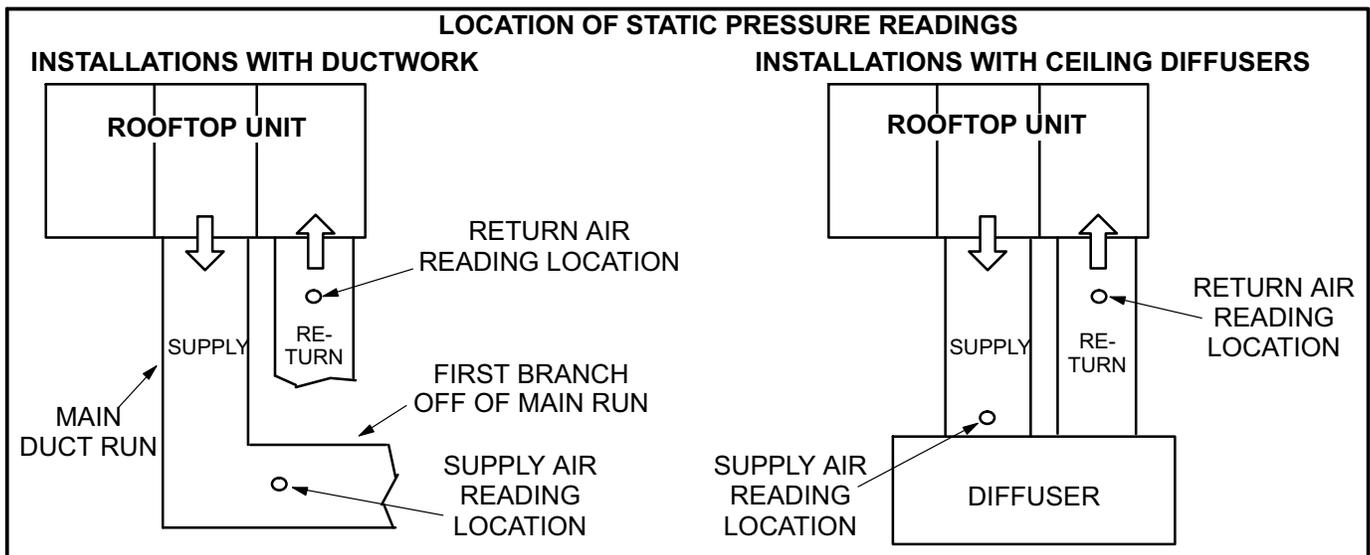

FIGURE 12
- 4- With all access panels in place, measure static pressure external to unit (from supply to return). Blower performance data is based on static pressure readings taken in locations shown in figure 12.